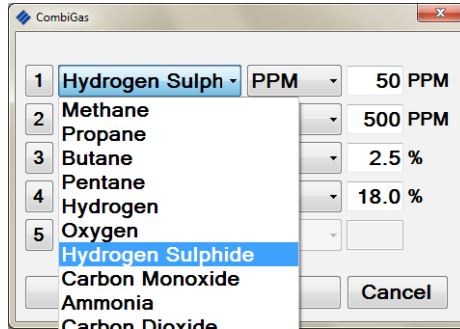

Fig. 3-14 Edit Gas Type
1. The 'gas type' drop down arrow allows selection of an alternative gas to the one displayed in adjacent window, as illustrated in Fig. 3-14.